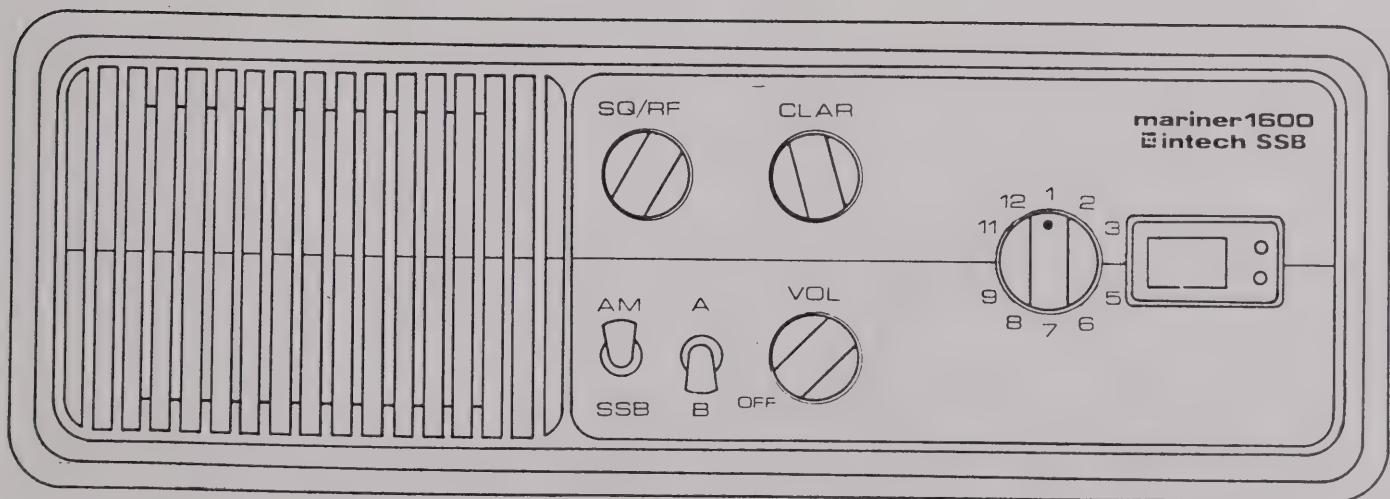

Fig. 1
- Figure 1: Mariner 1600, Front Panel
Figure 1 illustrates the front panel of the Mariner 1600. The function of these controls are as follows: